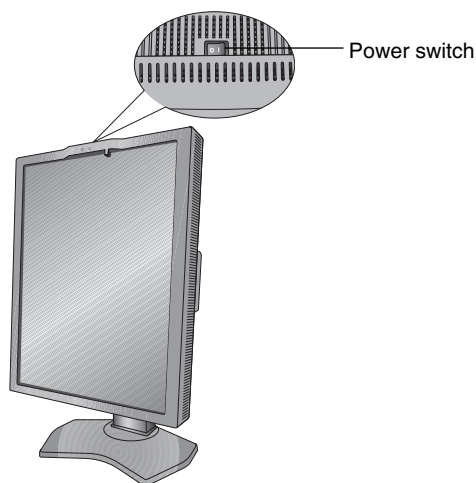

Figure E.1
- 9. Turn on the monitor with power switch on the top (Portrait) or left side (Landscape) of the monitor (**Figure E.1**). Turn on the computer.